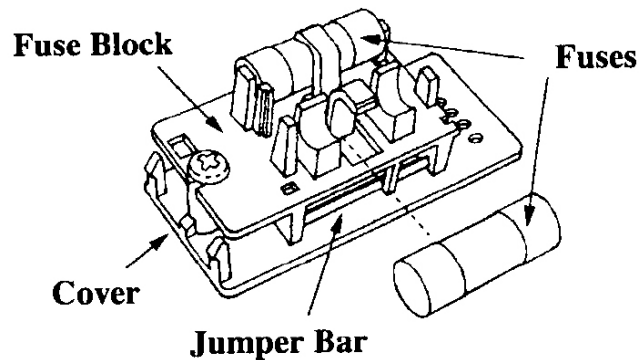

Figure 5. Fuse block.
10. Slide the fuse block back into position and tighten the screw (Figure 5). Make sure the two active 1.0 A fuses face out.